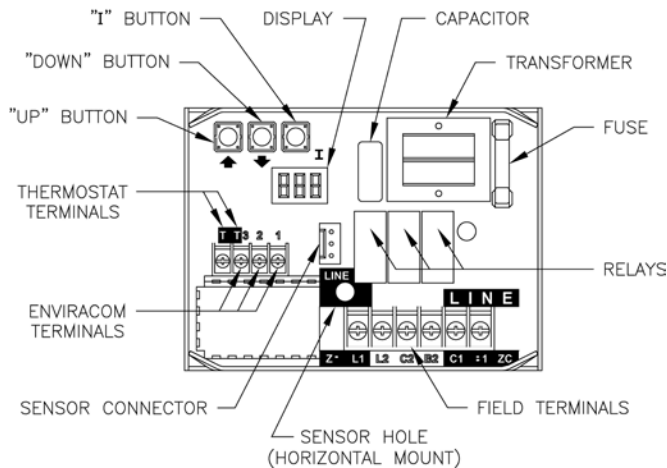

Figure 12: L7248 Circuit Board Layout - Horizontal Mount
- (1) On the L7248/L7224, the overall range of the High Limit is from 180°F to 240°F (82°C to 116°C).
- (2) Set the High Limit (designated HL) on the L7248/L7224 Aquastat Control at 180°F. This temperature setting may be varied to suit requirements of installation. Differential is fixed at 15°F.
To discourage unauthorized changing of Aquastat settings, a procedure to enter the adjustment mode is required. To enter the adjustment mode, press the **UP**, **DOWN**, and **I** buttons (see Figure 12) simultaneously for three (3) seconds. Press the ‘I’ button until the feature requiring adjustment is displayed (press the “I” button again and will display LL (Low Limit on L7224):